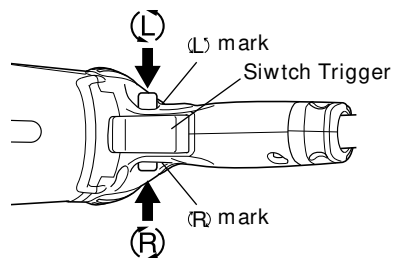

Fig. 6
9. Check the rotational direction (Fig. 6)